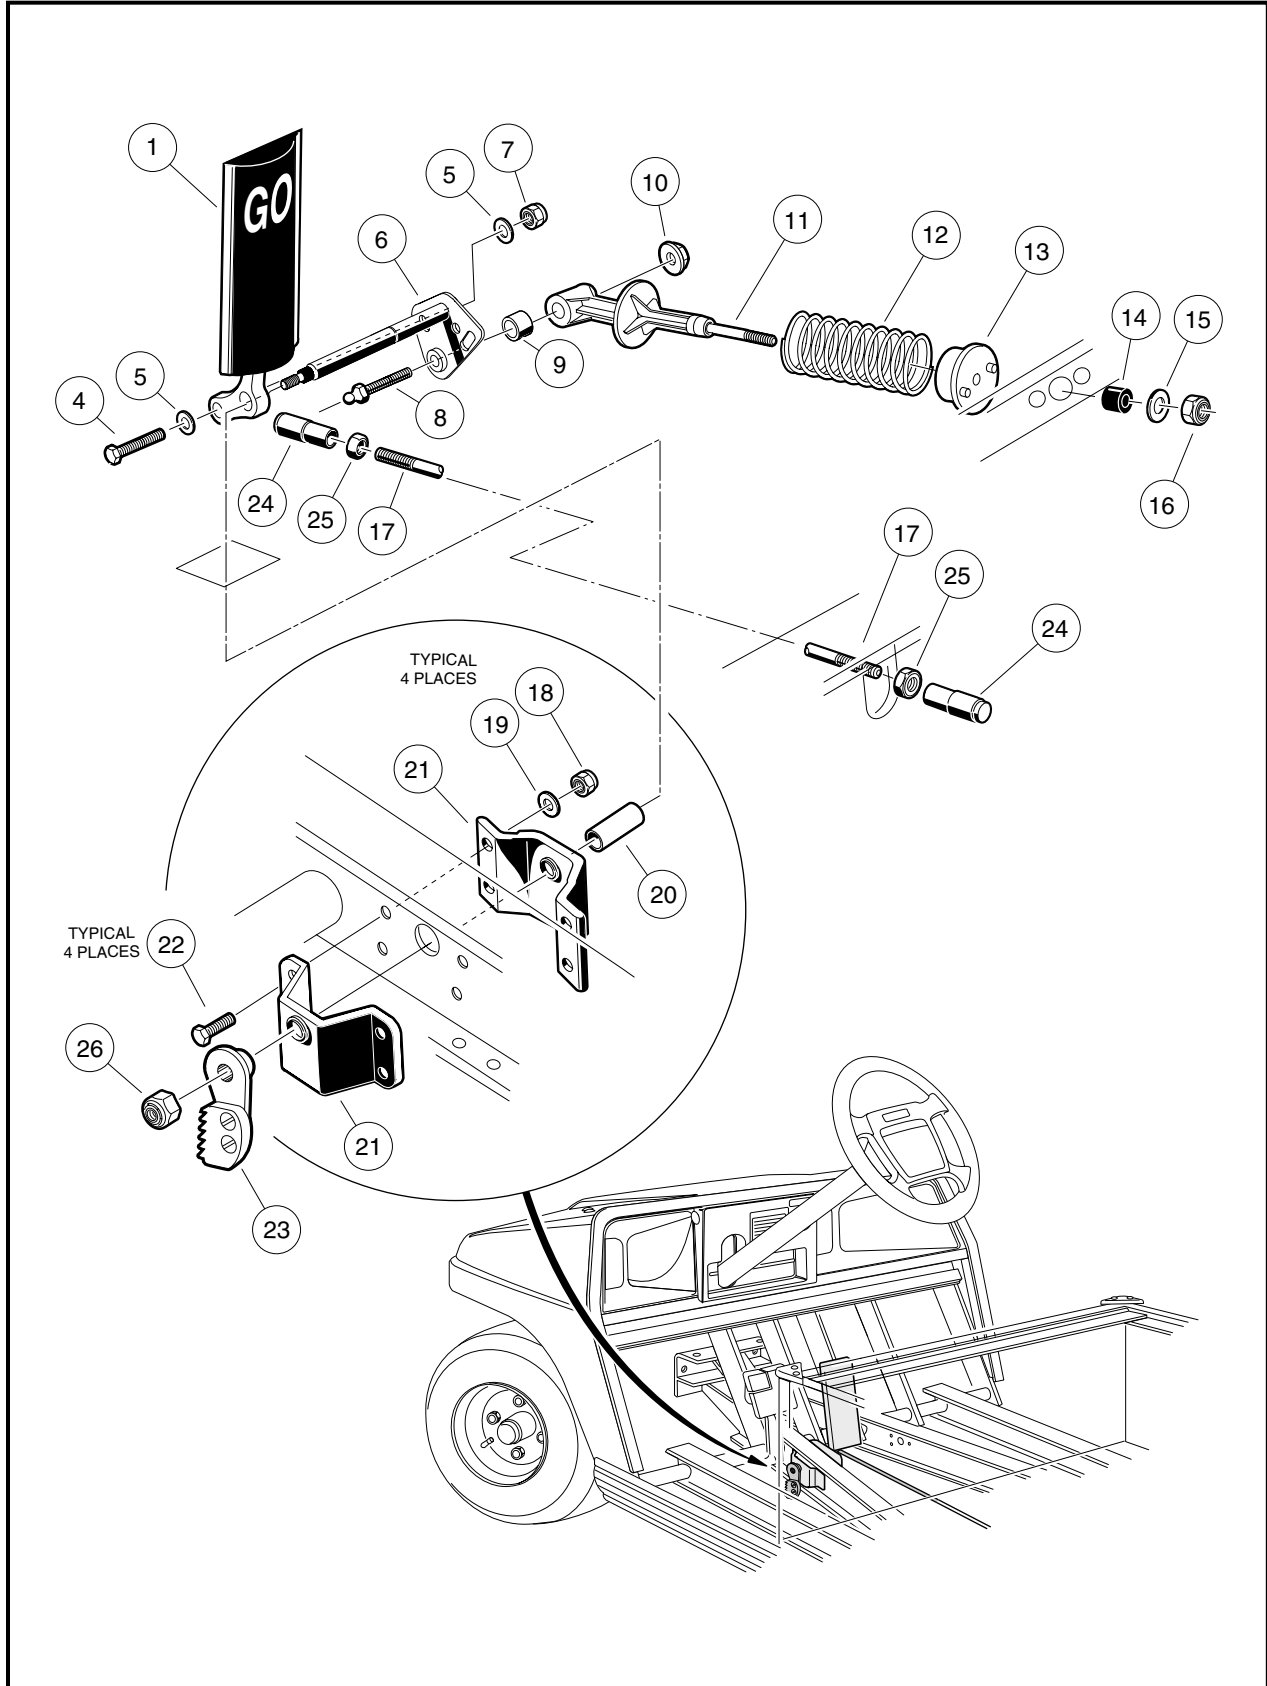

Figure 5-6 Accelerator Pedal – Electric Multi-Step Potentiometer Vehicles and all Gasoline Vehicles
3. Disconnect the accelerator rod assembly (17, 25, and 24) (**Figure 5-6, Page 5-8**) at the front and rear ball studs and remove it from the vehicle.
4. Using a 9/16-inch socket and 9/16-inch wrench, remove the nut (7), two washers (5), and bolt (4) securing the accelerator pedal (1) to the pivot rod (6).
5. Remove the nut (10) and ball stud (8) from the accelerator pivot rod assembly (6).
6. Slide the spring retainer (11) off of the accelerator pivot rod.
7. Inspect the pivot support bearing (9) for wear and replace if necessary.
8. Use a marker to mark the position of the park brake ratchet (23) on the accelerator pivot rod (6). **See following NOTE.**
9. Remove the lock nut (26) from the accelerator pivot rod.
10. Depress the brake pedal slightly and slide the park brake ratchet (23) toward the end of the accelerator pivot rod. Rotate the ratchet and remove it from the pivot rod.
11. Remove the pivot rod (6) and spacer (20) from the accelerator pivot rod supports (21) (**Figure 5-6, Page 5-8**).
1. If the accelerator pivot rod supports were replaced, position the supports (21) on the vehicle frame and install the four bolts (22), flat washers (19), and lock nuts (18). Finger-tighten nuts at this time (**Figure 5-6, Page 5-8**).
2. Insert the lower end of the accelerator pedal (1) through the floorboard and install the accelerator pivot rod (6) through the uppermost hole in the pedal.
3. Install the plastic spacer (20) on the pivot rod (6).
5. Tighten the four bolts (22) attaching the pivot rod supports to the frame to 75 in-lb (8.5 N·m).
6. Install the bolt (4), two washers (5), and a new lock nut (7) through the lower hole in the pedal and through the pivot rod. Finger-tighten nut at this time.
7. Install the ball stud (8) through the pivot rod. Install the spring retainer (11) onto the ball stud. Secure these parts with the nut (10) (**Figure 5-6, Page 5-8**). Tighten the nut to 50 in-lb (5.7 N·m).
11. Install the nylon lock nut (26) on the pivot rod and tighten the nut to 18 ft-lb (24 N·m) (**Figure 5-6, Page 5-8**).
12. Install the accelerator rod assembly (17, 25, and 24) (**Figure 5-6, Page 5-8**).